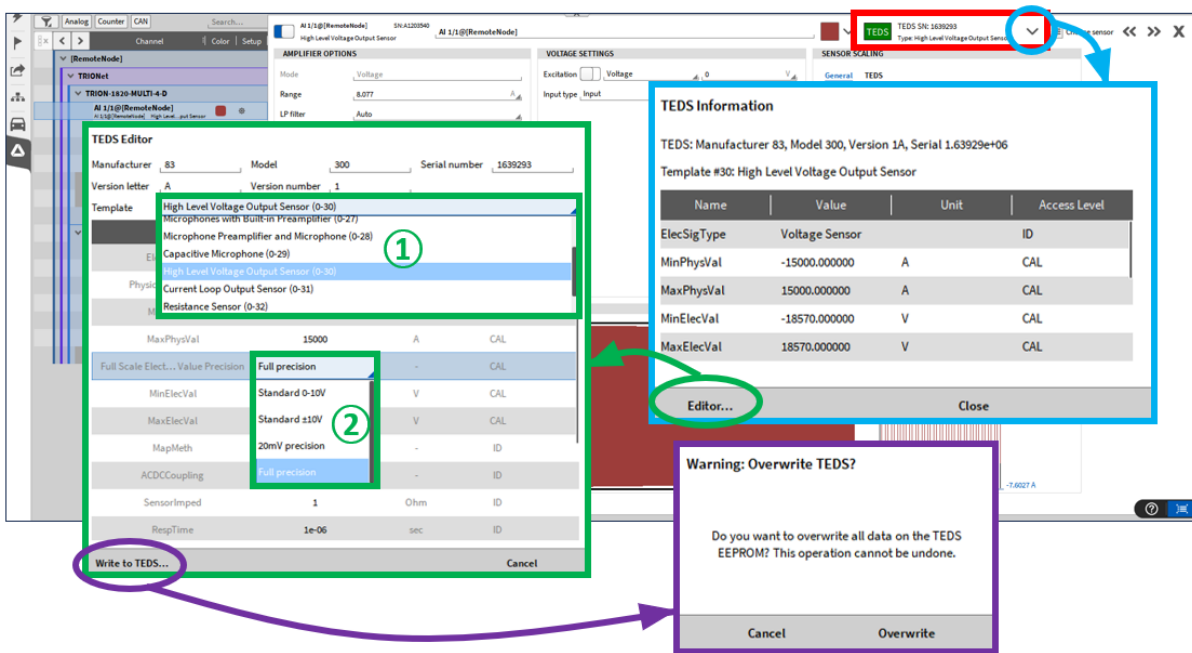

Fig. 7.217: Detailed Channel Settings with TEDES interface and TEDES editor
A detailed channel setting can be seen in Fig. 7.217. Depending on the type of sensor some settings might vary. The settings from the TEDS can be seen here and some settings can be adjusted manually, like the range. By clicking on the shown TEDS serial number, marked red in Fig. 7.217, all the TEDS information and settings can be seen (see blue frame in Fig. 7.217).
By clicking on “Editor” (see green circle in Fig. 7.217) the TEDS editor can be opened (see green frame) which offers the possibility to edit the stored data on the TEDS chip. It is possible to choose between a set of templates (see ① in Fig. 7.217) or to change the information stored on the TEDS chip manually (see ② in Fig. 7.217). When all changes are finished the information can be written to the TEDS chip, by clicking on “Write to TEDS” (see purple circle in Fig. 7.217). A window will pop up which asks for confirmation that the data should be written to the TEDS chip.
TEDS detection can also be disabled in the detailed settings by clicking on the green TEDS button (marked green in Fig. 7.217). This button has different colors depending on the state, which will be explained here: